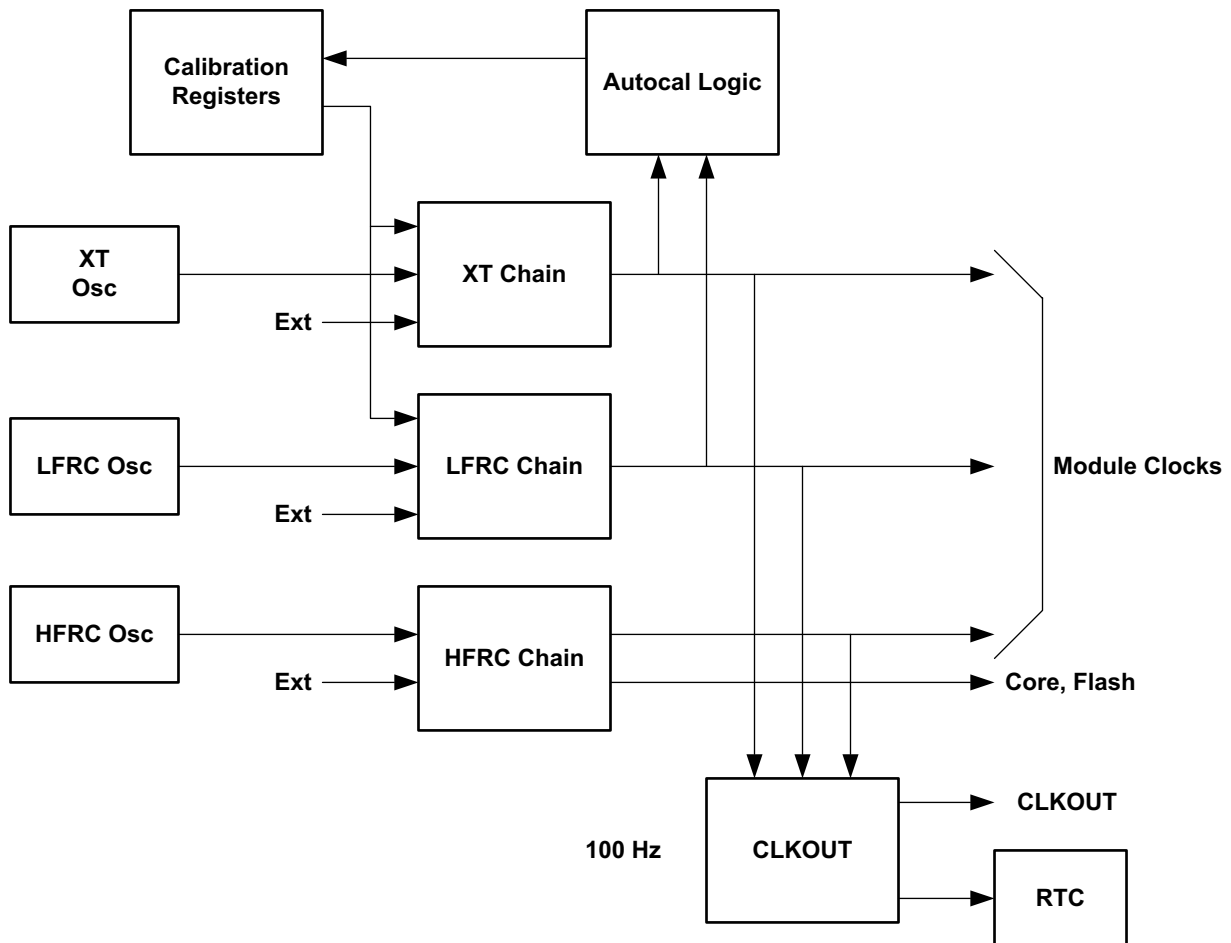

Figure 38. Block diagram for the Clock Generator and Real Time Clock Module
The Clock Generator Module, shown in Figure 38, supplies all clocks required by the Apollo MCU. These clocks are derived from one of three internal oscillators: a high precision crystal controlled oscillator (XT), a low power 1 kHz RC oscillator (LFRC) and a high frequency 24 MHz oscillator (HFRC). The output of the XT oscillator may be digitally calibrated to ± 1 ppm (part per million).